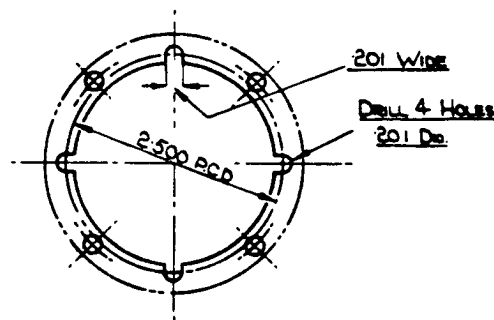
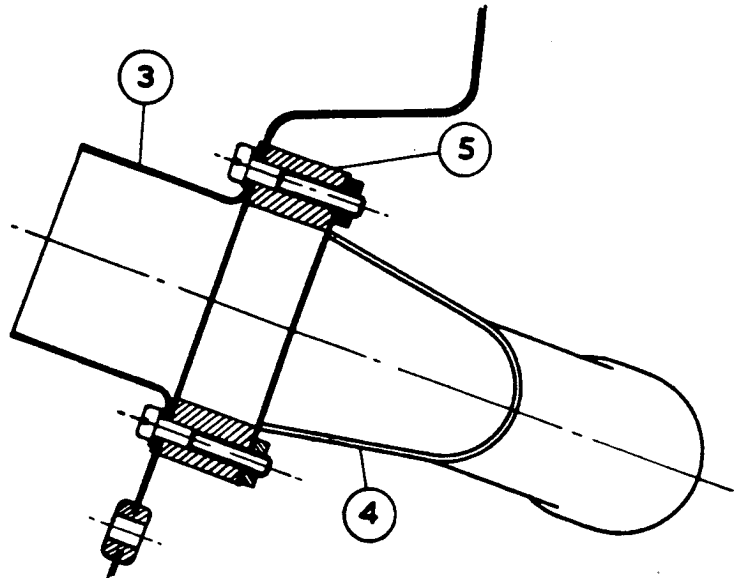

FIG. 5.
FIG. 6. FITTING OF SUPPORT TUBE, BREECHES PIECE AND THROTTLE BARREL.
In such cases it will only be necessary to remove the blanking plate, and then drill the four 0.201" dia. holes for the demister motor support tube retaining bolts as shown in Fig. 5.
- 8) Fit the demister motor support tube (3) breeches piece (4) and throttle barrel (5) as shown in Fig. 6, using the four 2 B.A. bolts and washers supplied.
- 5) Fit the demister motor support tube, breeches piece and throttle barrel as shown in Fig. 6. (N.B. It will be necessary to drill the four 0.201" dia. holes round the duct aperture as shown in Fig. 5.) If the car is fitted with hinged flaps over the windscreen outlet ducts, the throttle barrel should not be fitted, and shorter bolts should be used to connect the support tube directly to the breeches piece with the dash in between.